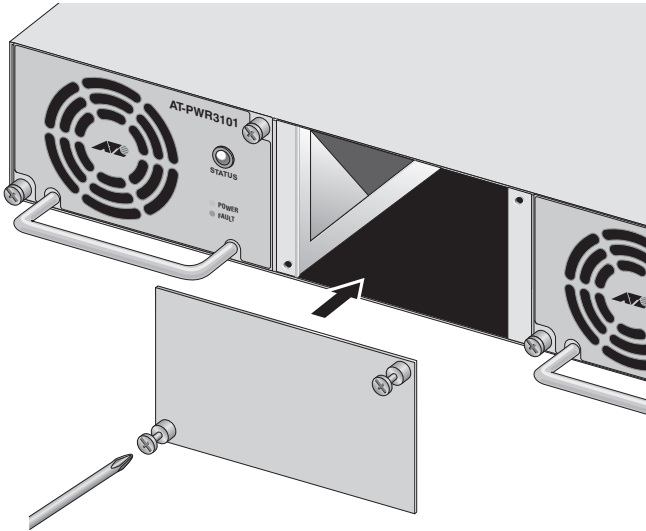

Figure 25. Reinstalling a Blank Faceplate
4. If you are not replacing the failed module with a new AT-PWR3101 module, reinstall the blank faceplate over the empty expansion slot (see Figure 25). A slot should not be left open. The blank faceplate keeps dust from entering the system and helps ensure proper cooling and airflow in the chassis.